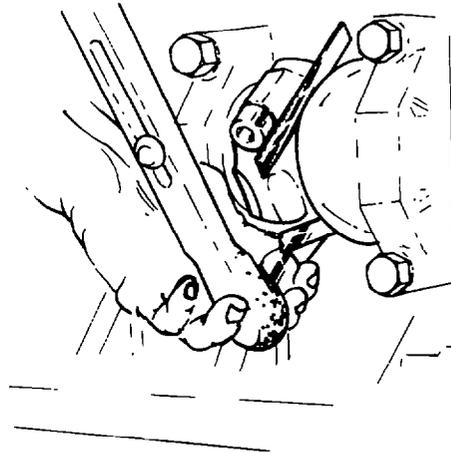

Fig. 82 — Aligning Big-end Caps
u. Refit the connecting-rod and cap to the crankpin; install and tighten the retaining bolts until they are just snug; insert two strips of 0.101 mm (0.004 in.) shim stock between the big-end and crankpin webs (see fig. 82).